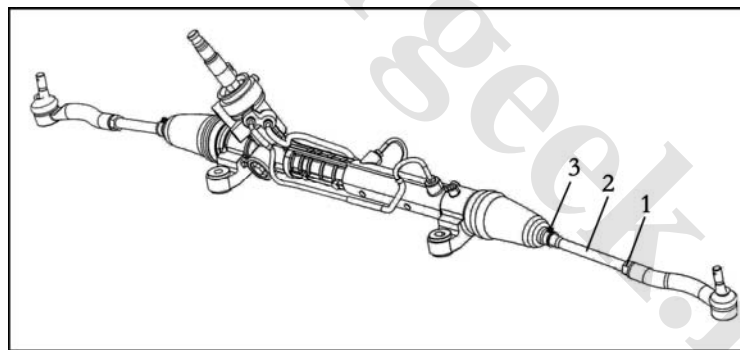

Fig. 2-8
##### 2. Front wheel toe-in adjustment, Fig. 2-8.
- (1) Dismantle the small boot clamp on the steering stabilizer bar.
- (2) Adjust the steering wheel to the front center position.
- (3) As shown in Fig. 2-8, release the hexagon bolt, and revolve the steering stabilizer bar for a proper toe-in angle.
- (4) Confirm that each steering stabilizer bar revolves for the same turns.
- (5) Tighten the locking nut.
- (6) Install the boot clamp.